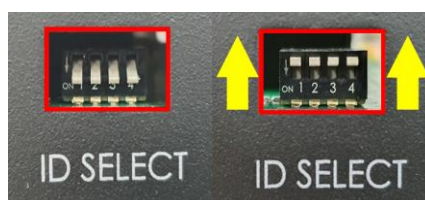

Figure 10. Change 'ID SELECT' DIP switch to off
11. Change all (1, 2, 3, 4) the 'ID SELECT' DIP switches' to OFF status as shown in right image of Figure 10.